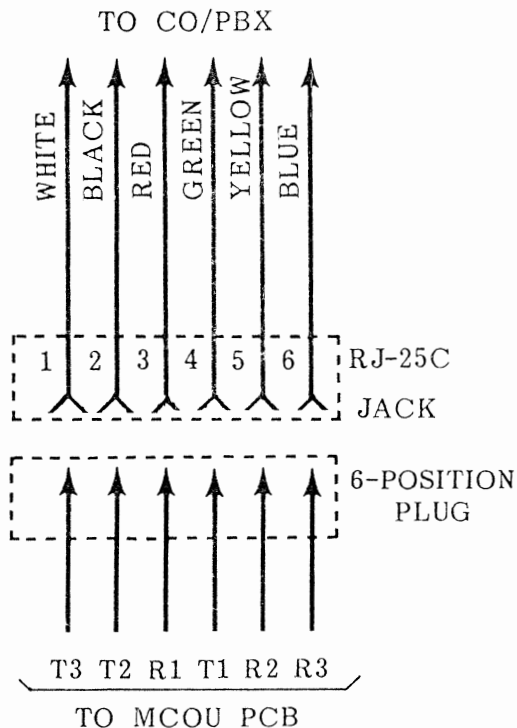

FIGURE 16
07.31 The CO/PBX lines are introduced into the STRATA VI system via 6-wire modular line cords (no longer than 25 ft.) connected directly to a jack on the MCOU PCB. Each modular cord contains three lines. The opposite end of each cord then terminates directly into an RJ-25C jack provided by the telephone company (Figure 16).